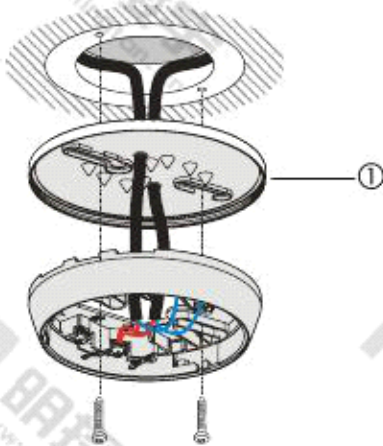

Fig. 5
- **Detector base seal RS720 (Fig. 5)**